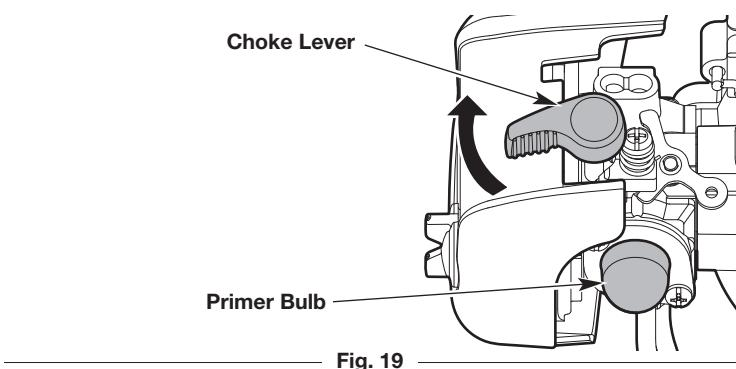

Fig. 19
1. Slowly press and release the primer bulb **10 times** (Fig. 19).
2. Flip the choke lever clockwise until it clicks (Fig. 19).